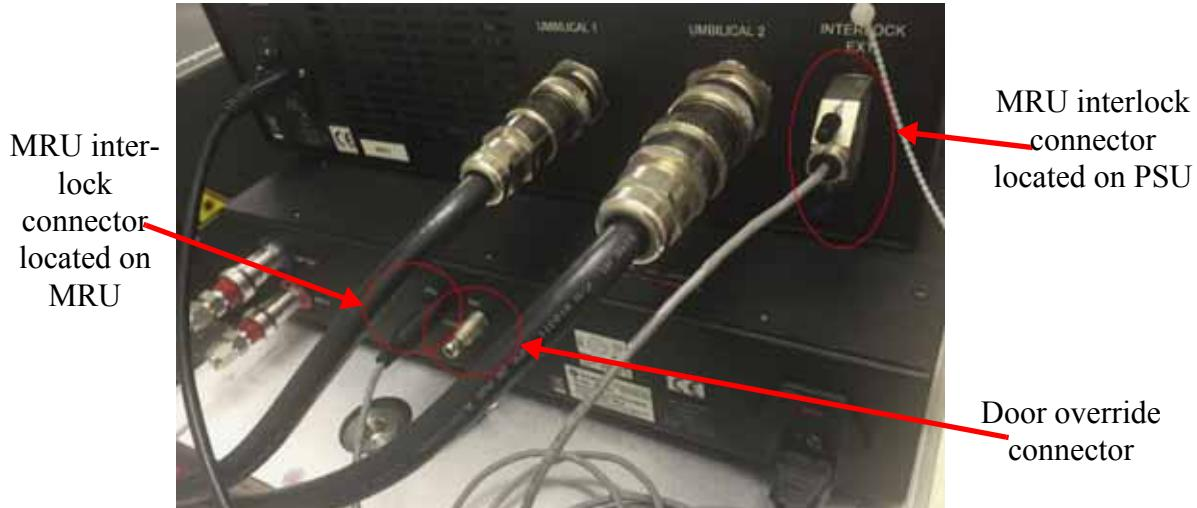

Figure 1.2-8. PSU to MRU Interlock Connection
2. Install the supplied MRU interlock cable as shown in Figure 1.2-8. The interlock cable is found in the accessory kit.
3. Install the door contact override connector as shown in Figure 1.2-8. The connector is found in the MRU shipping box.